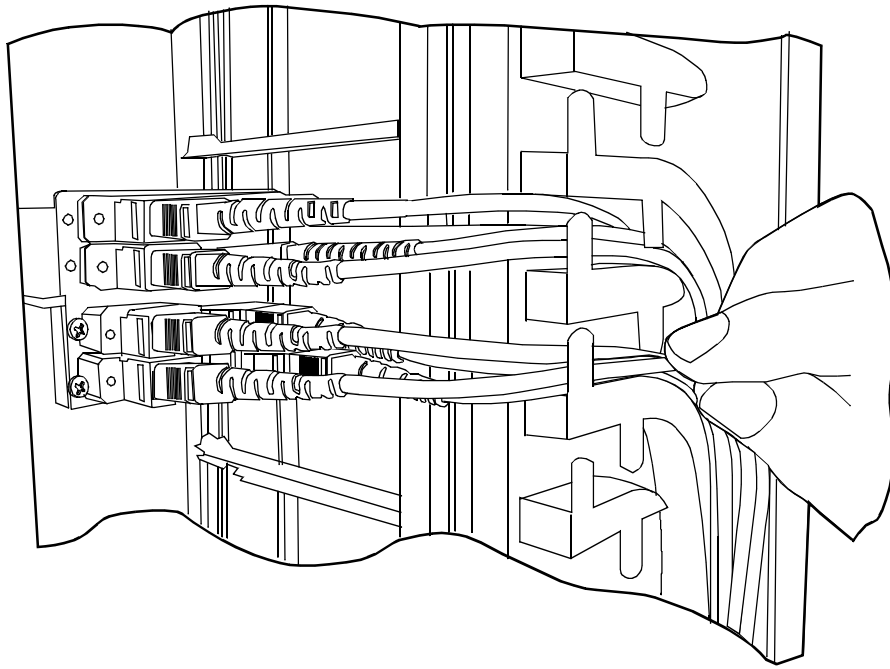

Figure 22 Arranging fibre patch panel
8. Open the splice cassette box by levering open the plastic top of the cassettes using a screwdriver. Shown in Figure 22.